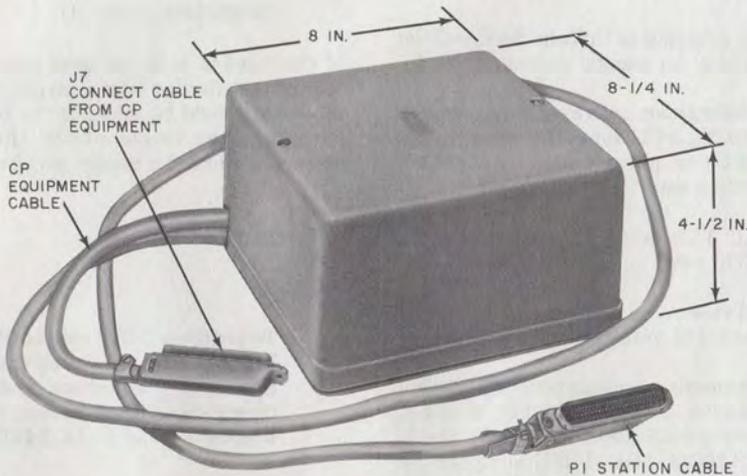
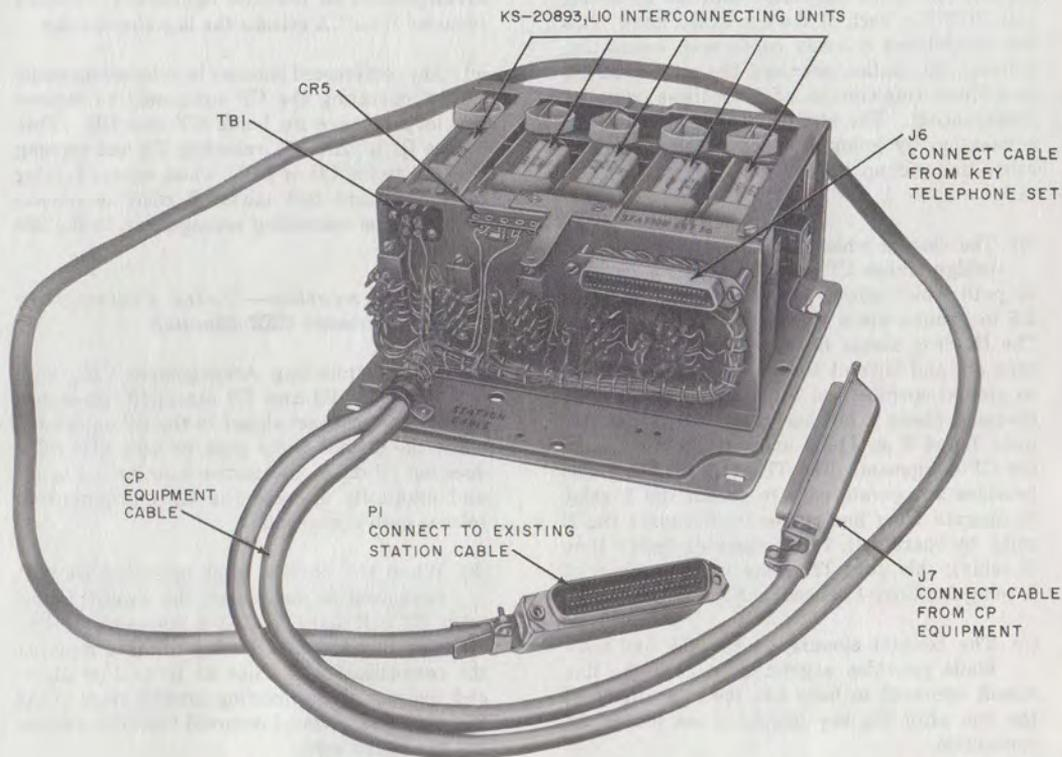

Fig. 1—KS-20893, List 11 Interconnecting Service Unit
Fig. 4—KS-20893, List 11 Interconnecting Service Unit, Equipped (Cover Removed)
1.03 Voice Connecting Arrangement CEZ requires one KS-20893, List 11 ISU, Fig. 1 and 2, per five lines and one KS-20893, List 10 IU, Fig. 3, per line. A KS-20893, List 11 ISU equipped for five lines is shown in Fig. 4. Not all COs or PBXs provide an open or battery reversal on disconnect,
KS-20893, List 11 Interconnecting Service Unit (Fig. 1, 2, and 4)
5.02 When there is an indication of trouble in the connecting arrangements, the circuit must be opened at the interface (J7 on the CP equipment cable on the KS-20893, List 11—see Fig. 4) to verify in which direction the trouble exists.
- (b) Check for presence of battery and ground and proper polarity on TB1 (-24 volts) on KS-20893, List 11 ISU (see Fig. 4, 6, and 7).
6.01 Connect plug P1 on the cable from the KS-20893, List 11 ISU to the connector on the existing station cable from the key telephone equipment (see Fig. 4 and 5). Connect the plug on the mounting cord from the key telephone set to connector J6 on the KS-20893, List 11 ISU. Connect the plug on the cable from the CP equipment to connector J7 on the CP equipment cable on the KS-20893, List 11 ISU. The plug on the cable from the CP equipment mates with connector J7 on the CP equipment cable on the KS-20893, List 11 ISU.
The (S-W) (G-R) leads in the cable on the KS-20893, List 11 ISU are provided for battery and ground connection to the ISU from the key telephone equipment (see Fig. 6 and 7). If these leads are not available in the existing station cable from the key telephone equipment, separate wiring must be provided to connect battery and ground to the screw terminals on TB1 (Fig. 4) from the key telephone equipment or a separate - 24 volt power supply. When battery and ground connections are made directly to screw terminals on TB1, disconnect the (G-R) wire from the screw terminal on TB1 and the (S-W) wire from terminal 6 (wire-wrap terminal) on connector J1; insulate and store.